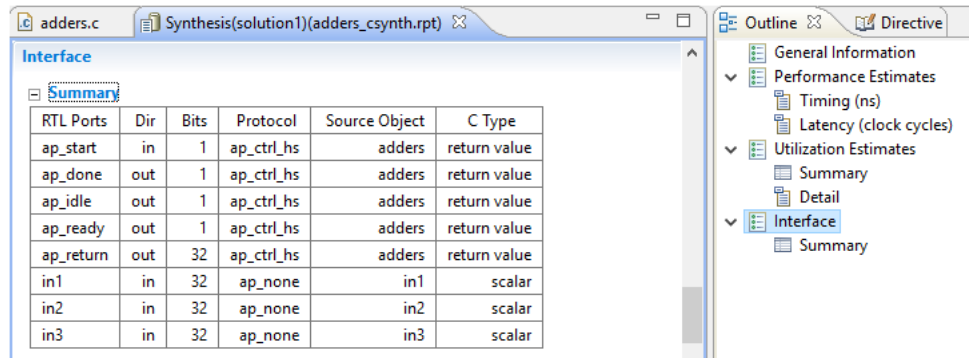

Figure 4-4: Interface Summary
The Interface summary and Outline tab are shown in Figure 4-4.
- Input ports `In1`, `In2`, and `In3` are 32-bit inputs and have the I/O protocol `ap_none` (as specified by the directives in Figure 4-4).